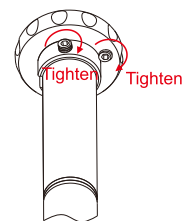

Fig. 9
6. Final Locking (As shown in Fig. 9)